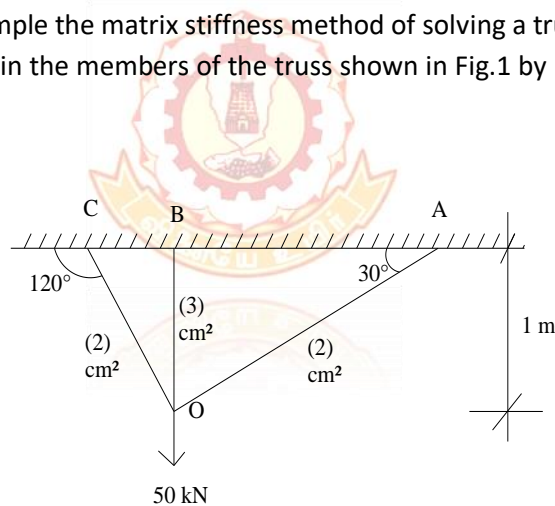

Fig.1
7. Determine the forces in the members of the truss shown in Fig.1 by matrix stiffness method.